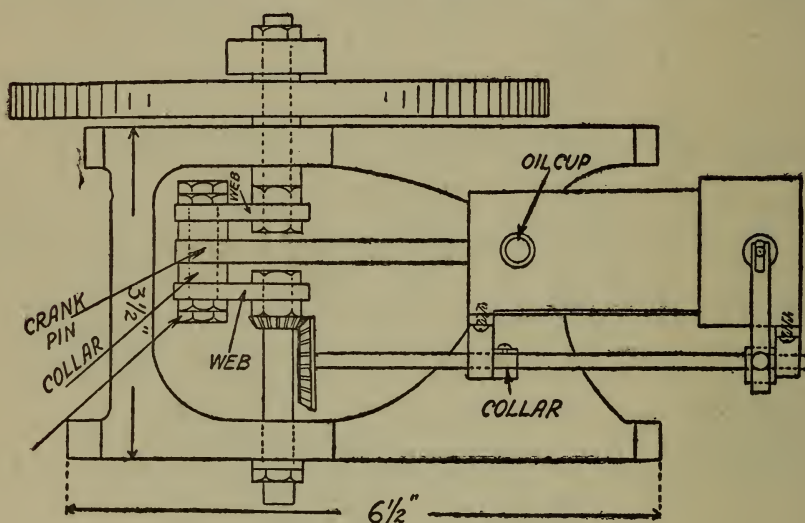
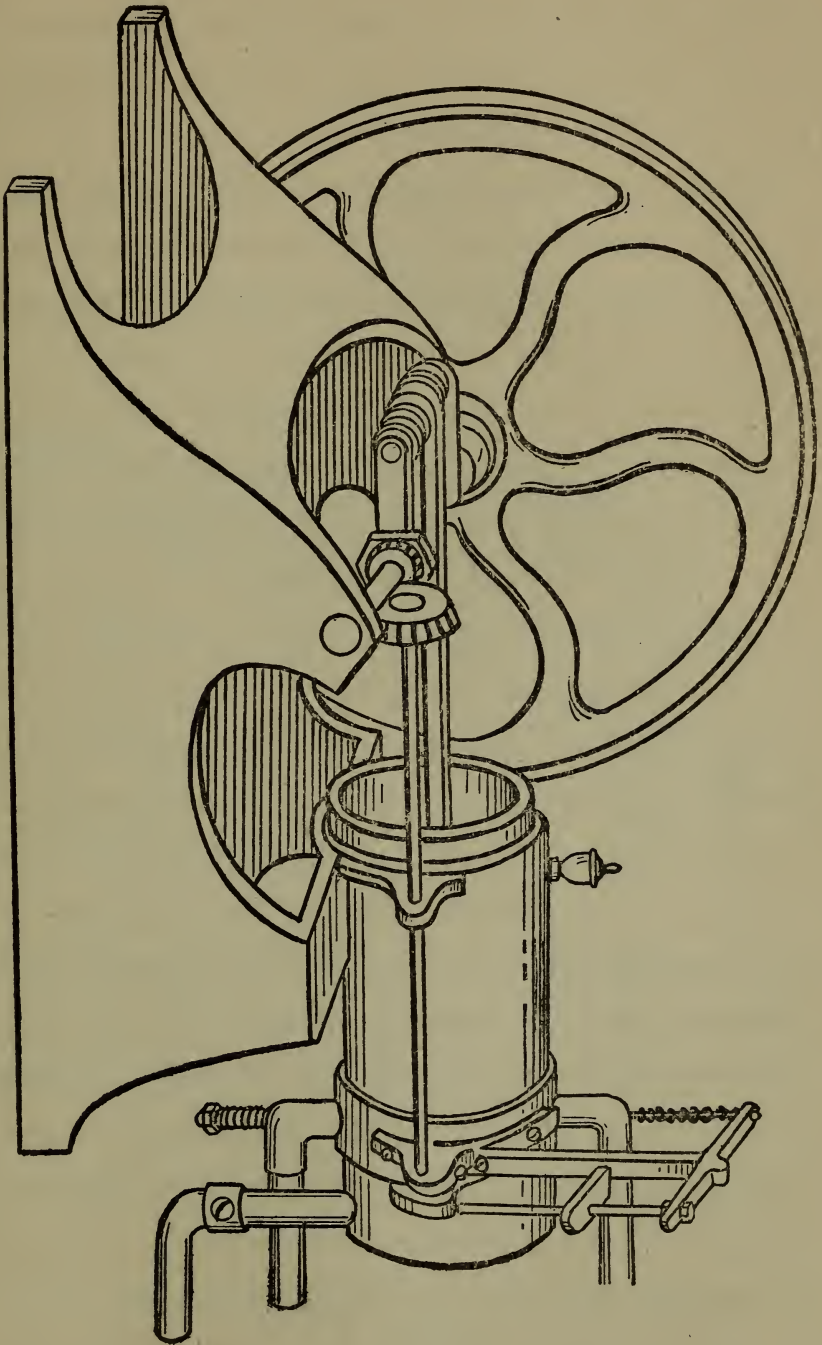

Fig. 74. Top View of the Engine
Fig. 79. The Model Gas Engine Complete
Glue a lug on the rounded side of each base  $\frac{1}{4}$  inch thick,  $\frac{5}{16}$  inch wide and  $\frac{5}{16}$  inch long and drill a  $\frac{3}{16}$ -inch hole through the end. After the patterns are cast, screw the one with the thinnest base to the extreme end of the cap on the cylinder and screw the other bearing to the front end of the cylinder as shown in the top view Fig. 74 and in the perspective drawing Fig. 79, be sure to have the holes in a straight line with each other.
*The Cam and Camshaft.*—To raise the cam rod up so that the rocker arm will push the valve stem down and thus open the exhaust valve when the exhaust stroke takes place, a *cam* is used and this is driven from the crankshaft by means of a camshaft and a pair of timing gears as shown in the top view, Fig. 74, and in the perspective drawing, Fig. 79.
bought of dealers in model supplies for about 75 cents per pair. The large bevel gear is, of course, fixed to the end of the camshaft and the small gear is keyed to the crankshaft as shown in Fig. 74.
Begin by screwing, or otherwise fixing, the small bevel gear to one of the shafts  $\frac{5}{8}$  inch down from the end, see Fig. 74, now screw on a nut, next screw on the web and, lastly, screw on another nut. On the other shaft screw a nut  $\frac{7}{16}$  inch down on one end, screw on the web, then screw on another nut and slip on a collar. The webs must be put on tight or they will twist around on the shafts.
pleted engine in Fig. 79 you will see precisely how it is put together.
Put the piston in the cylinder and set the crankshaft in the bearings of the bed when the small timing gear on the crankshaft will mesh with the large timing gear on the camshaft as shown in Fig. 74 and this will bring the collar on the other end of the camshaft up against the journal box.
The pulley can have a flat face  $\frac{3}{8}$  inch wide and a diameter of about 1 inch; fix it to the shaft next to the washer and screw on a nut all of which is shown in Fig. 74.